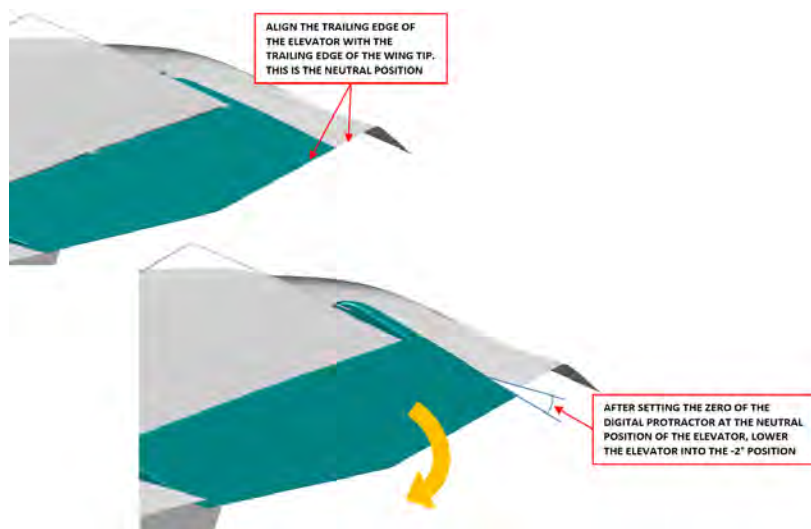

FIGURE 9-37
18. Adjust the rod end as necessary so that the rod end lines up with the elevator control horn while the elevator is in the -2° position. This will be the initial adjustment. If necessary, final adjustments will be made at a later step if required. See Figure 9-37.